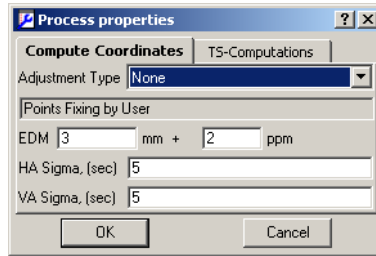

Figure D-18. Process Properties – Compute Coordinates Tab
2. Click the *Compute Coordinates* tab and select an adjustment type (Least Squares for this example of a network). Click **OK** (Figure D-18 on page D-13).